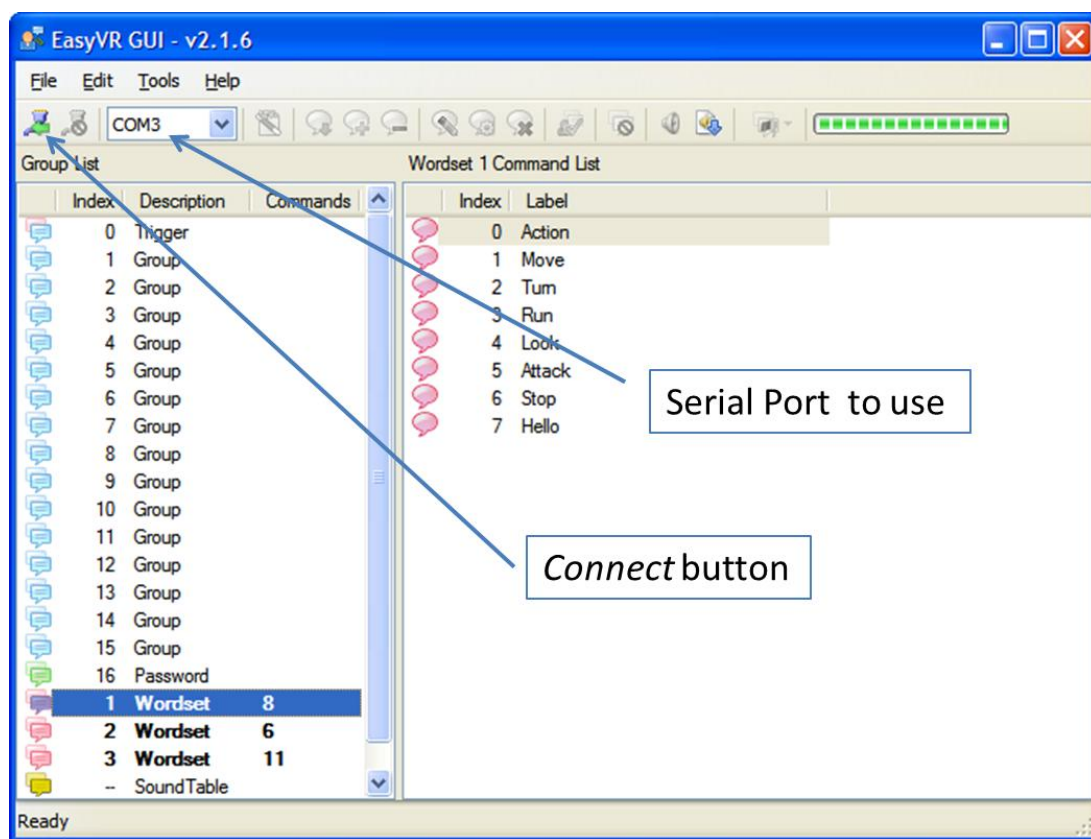
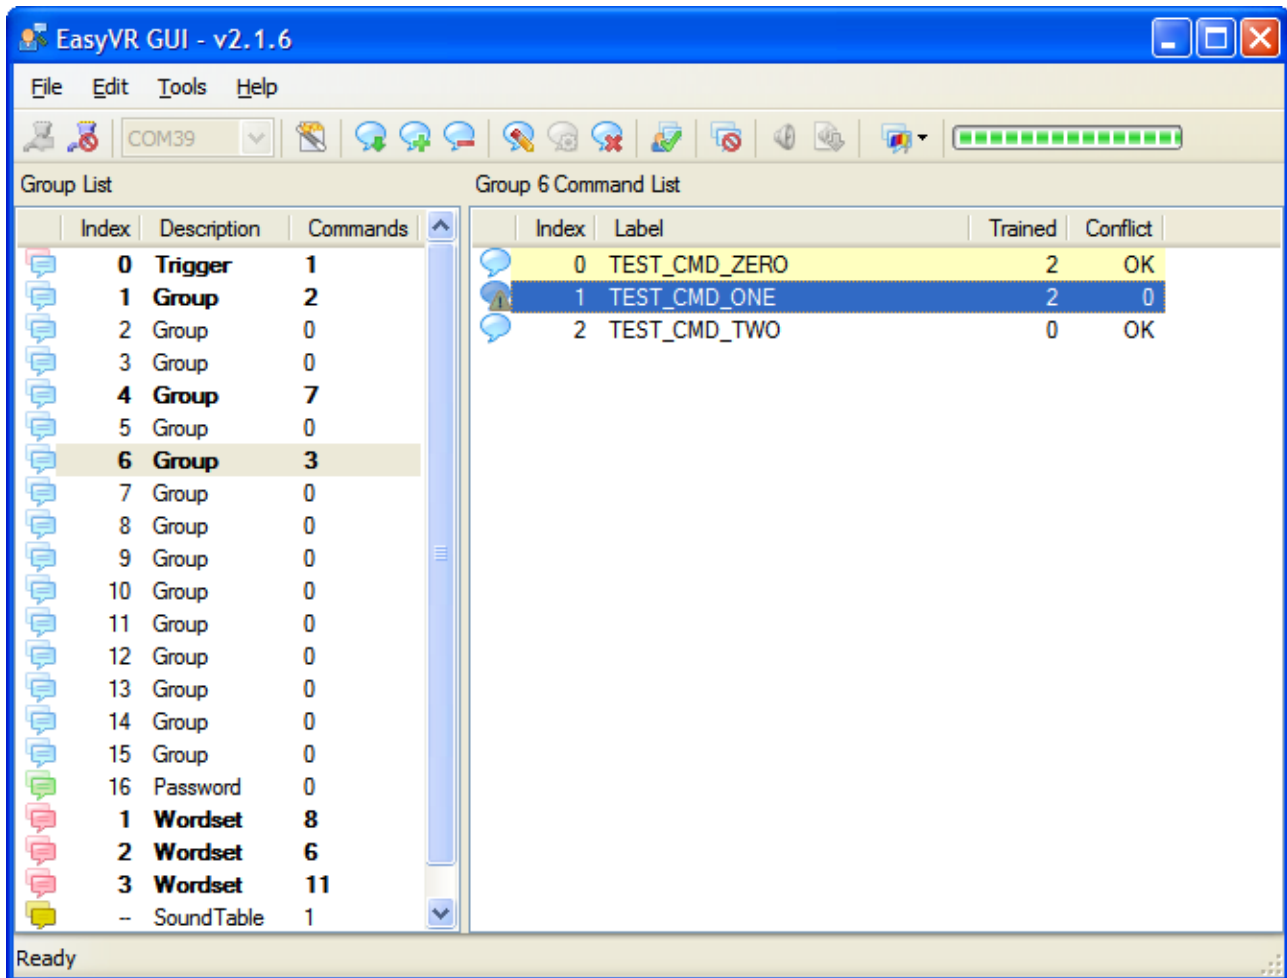

Figure 1 – Main application window
Figure 3 – Conflicting commands
There are four kinds of commands in the software (see Figure 1 and Figure 3):
- **Password** - a special group for "vocal passwords" (up to five), using Speaker Verification (SV) technology
- **Wordset** - built-in set of SI commands (for instance in Figure 1 above, the Wordset 1 is selected)
The software will also alert if a command is too similar to another one by specifying the index of the conflicting command in the "Conflict" column. For example, in the following Figure 3 the command "TEST_CMD_ONE" sounds too similar to "TEST_CMD_ZERO" (i.e. they have been trained with a similar pronunciation).